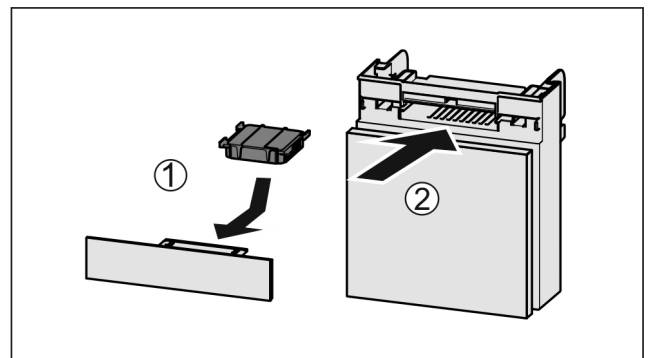

Fig. 104
- ▶ Insert the carbon filter as shown in the diagram *Fig. 104 (1)*.
- ▶ Push the compartment in *Fig. 104 (2)*.